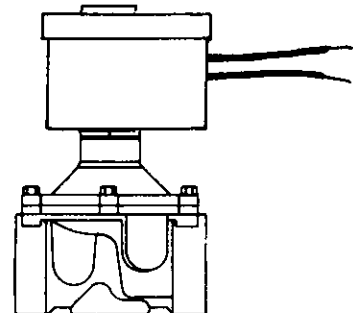

Figure 1-17. Gas Valve, Electrical Shutoff
8. Electrical Gas Shutoff Valve (Series EGVSO) — For situations where fuel gas must be shut off electrically, as part of the hazard protection, Pyro Chem offers a complete line of U.L. Listed electrically operated gas shutoff valves. These valves are available in sizes 3/4, 1 1/4, 1 1/2, 2, 2 1/2 and 3 inch NPT. (See Figure 1-17).